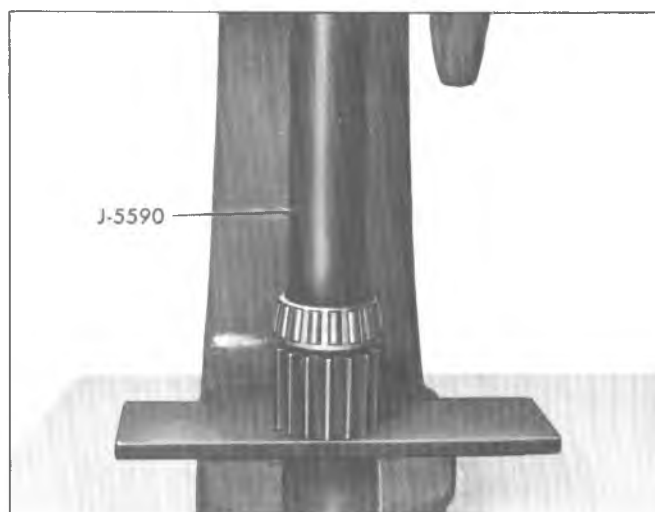

Fig. 9D--Installing Rear Output Shaft Front Bearing
2. Using Tool J-5590, press front bearing on shaft as shown in Figure 9D.